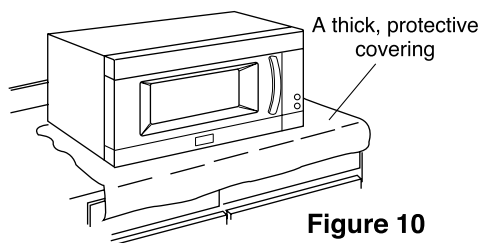

Figure 10
2. Cover the counter top or cooktop with a thick, protective covering to protect it from damage and dirt. See Figure 10.